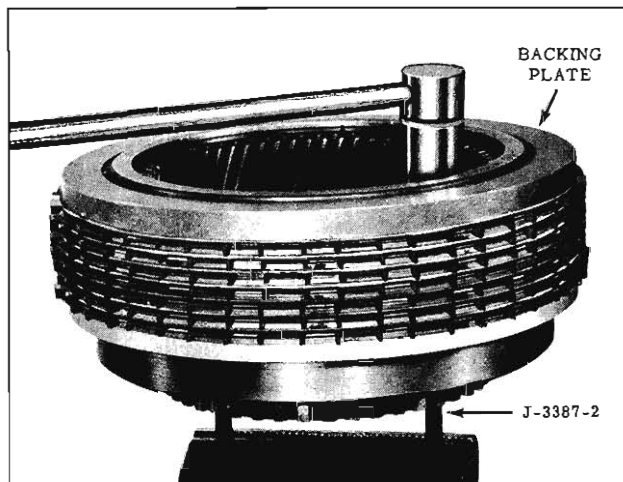

Fig. 6-75 Front Clutch Disassembly
FRONT CLUTCH (Fig. 6-75)
3. Install front clutch assembly with studs into vise so that studs are retained by the vise jaws. (Fig. 6-75)